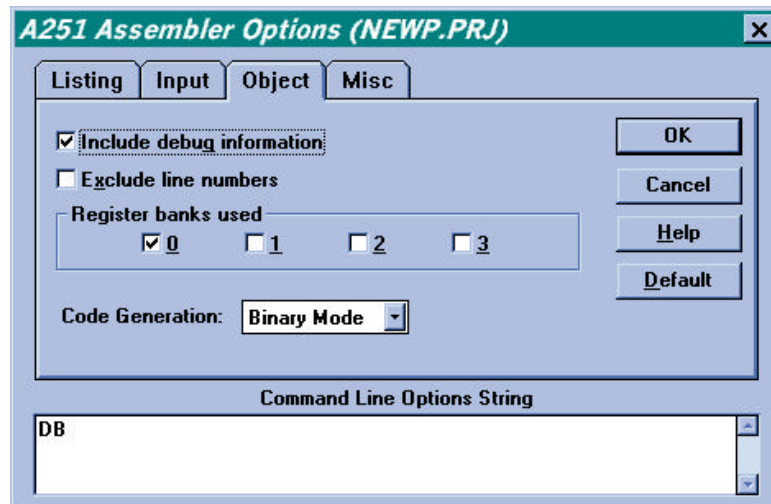

FIGURE 3
- Configure the options in the window under Object as shown in Figure 3 and press OK.